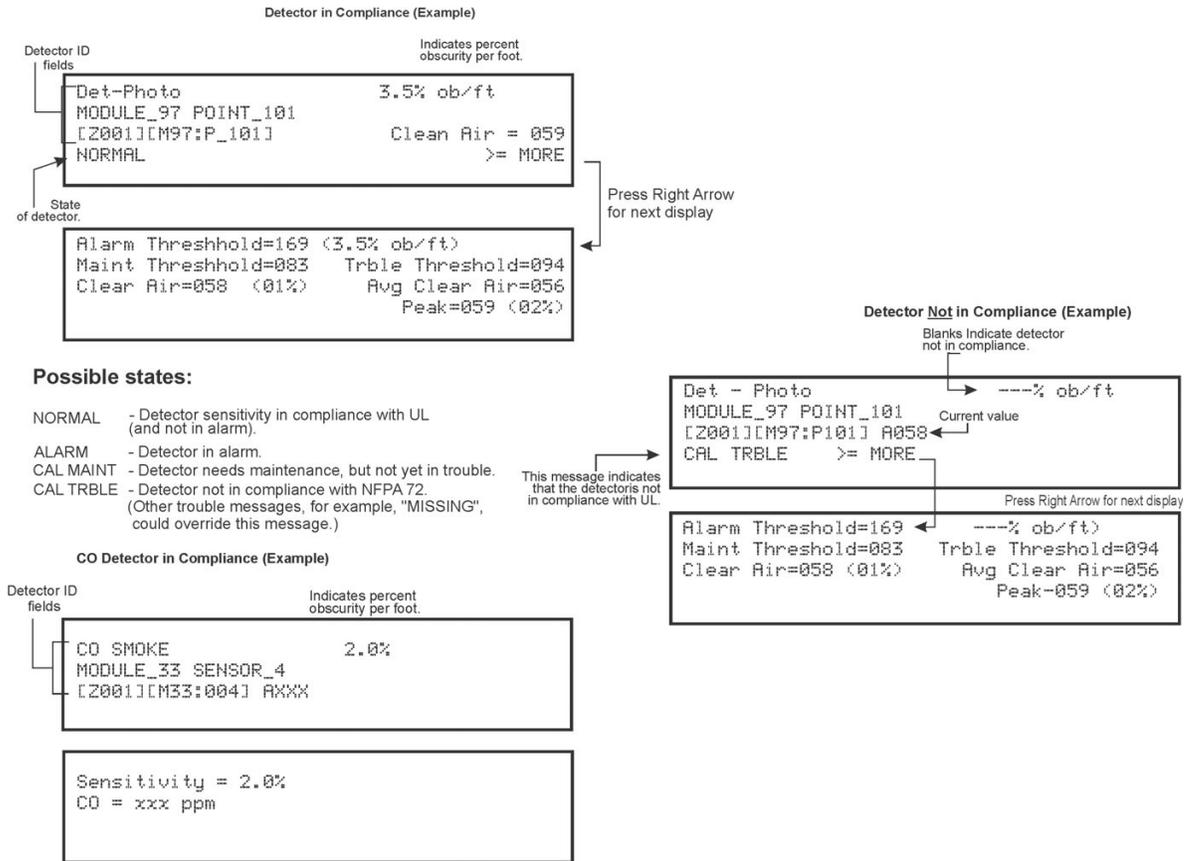

Figure 10.3 Checking Detector Sensitivity Compliance
- A screen similar to those shown in Figure 10.3 will display.